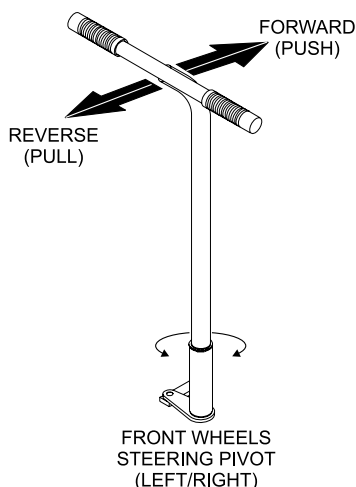

Figure 4. T-Handle (Directional Control)
1. Move the GB43LED, using the T-handle (Figure 4), to a firm level surface so that it will not slide or turn over.